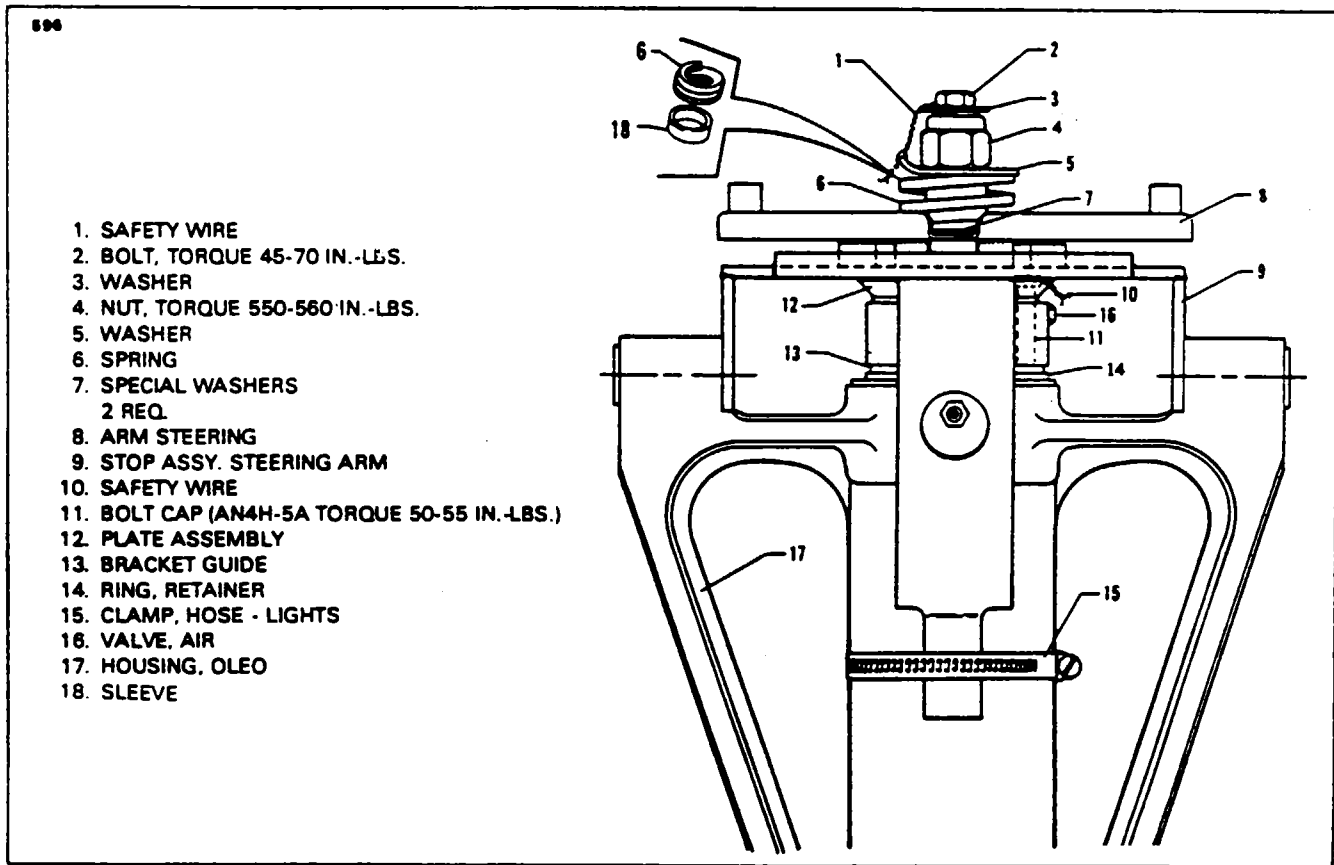

Figure 7-2. Nose Gear Steering Assembly (S/N 31-7852151 and up)
- d. To remove the complete cylinder and fork assembly from the oleo housing (35), cut the safety wire (44) and remove the cap bolts (37) that attach the steering arm (42) and aligner guide bracket (40) to the top of the oleo cylinder (12).
- e. To remove the complete cylinder and fork assembly from the oleo housing on later models, as shown in Figure 7-2, cut safety wire (1), and remove bolt (2), washer (3), nut (4), washer (5), spring (6), sleeve (18) and special washers (7) that secure the steering arm (8) to the plate assembly (12), cut safety wire (10) and remove cap bolt (11) that attach the plate assembly (12) and aligner guide (13) to the top of the oleo cylinder.
- f. Disconnect the shimmy dampener (27) by removing the bolt assembly (28) that connects the dampener to the cylinder.
- g. Release and remove the retainer ring (10) at the top of the housing (35) and pull the complete cylinder assembly from the bottom of the housing. The upper and lower housing bushings (11 and 13) should remain pressed in the housing.
- h. To remove the piston tube (26) assembly from the cylinder (12), separate upper and lower torque links (25 and 22) by removing the connecting bolt (24) with washer, nut and cotter pin (43). Note spacer washer (23) between the two links.
- i. Compress the piston tube (26), reach up along the tube and release the snap ring (9) from annular slot at the bottom of the oleo housing.
- b. To assemble the orifice tube (15), insert the orifice plate (16) into the bottom of the tube, with the countersunk side of the orifice hole exposed. Secure the plate with the retainer ring (17). Lubricate and install the O-ring (14) on the upper end of the tube.
- c. Insert the tube up through the bottom of the cylinder (12). Orifice tube (15) is fully installed in cylinder housing (12) when the upper end of the orifice tube is approximately .062 lower than flush with the upper end of cylinder assembly.
- d. The fork tube assembly may be assembled by installing the tube components on the tube (26). In order, slide onto tube: retainer ring (9), washer (8), lower bearing (5) with outer and inner O-rings (4 and 6), spacer (3) and upper bearing (2). Utilizing the reference marks applied during disassembly, align lock pin holes of the upper bearing and piston tube and install pins (1).
- e. Lubricate the inner wall of the cylinder. Carefully insert the piston tube assembly into the bottom of the cylinder (12), allowing the orifice tube to guide itself into the piston tube, until the retainer ring (9) can be installed in the annular slot at the end of the cylinder. Install wiper strip (7), slide washer (8) into position and secure assembly with retainer ring.
- f. At the top of the cylinder (12) tighten the orifice tube bolt (38).
- h. Ascertain that the upper and lower oleo housing bushings (11 and 13) are installed. Install the cylinder into the oleo housing and secure with retainer ring (10).
- i. At the top of the oleo housing, install on the cylinder the aligner guide bracket (40) and steering arm (42). Torque cap bolts (37), 30-35 in.-lbs. and safety with MS20995C40 wire (44).
- j. At the top of the oleo housing on later models as shown in Figure 7-2, install on the cylinder the aligner guide bracket (13) and the plate assembly (12). Torque cap bolts (11), 50-55 in.-lbs. and safety with MS20995C51 wire. Install steering arm (8), special washers (7), sleeve (18), spring (6), washer (5), nut (4) with torque of 550-560 in.-lbs., washer (3), bolt (2) with torque of 45-70 in.-lbs., and safety with MS20995C51 wire.